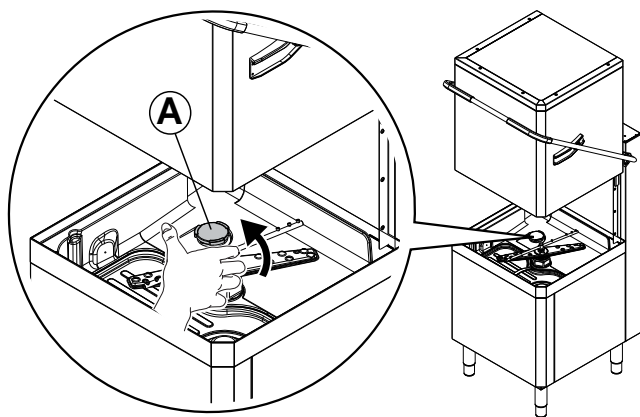

Figure 28 Unscrew the salt container cap
- Unscrew cap "A" (Figure 28) of the salt container, turning it anticlockwise.